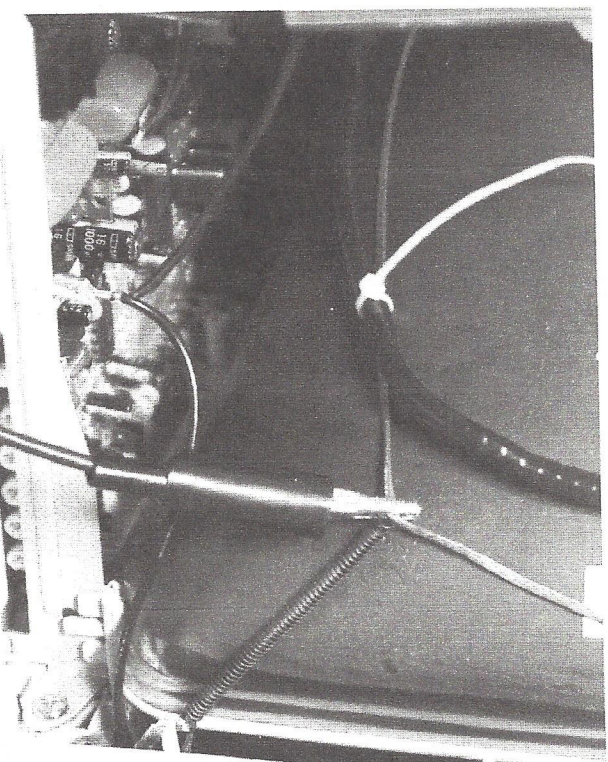

Fig. 5 - Discharge the high voltage through a resistance connected to the high voltage ground.
- 4) Connect the ground side of the shorting wire to the spring or wire that goes around the CRT, as shown in Figure 5.